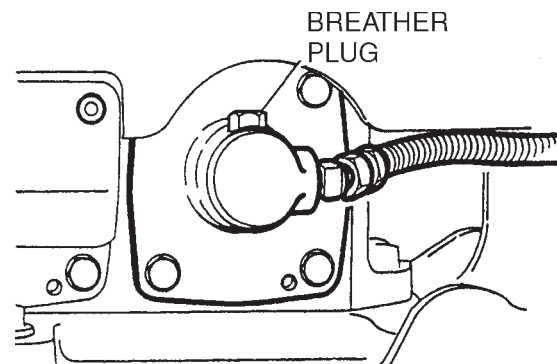

Figure 23. Breather Plug
5. After filling tank, temporarily install cover. Loosen bleeder plug located at the top of the cylinders on side of vibrator (Figure 23). Air remaining in the circuit will be forced out of the bleeder plug.
1. Check hydraulic oil in every 100 hours of operation. With handle bar positioned vertically (storage position), remove breather plug (Figure 23) off the top of hydraulic pump and check for proper oil level.